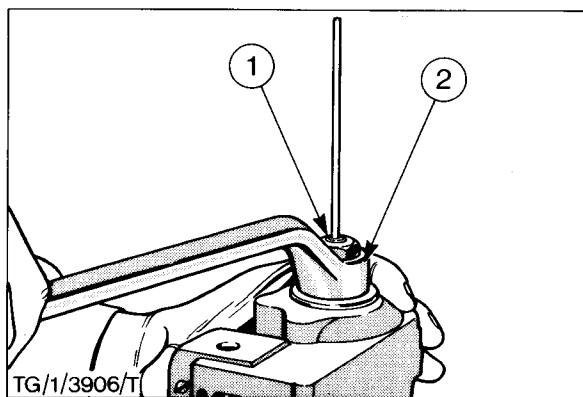

Fig. 65 - Installing a New Rear Bearing Cup (Dorset Shown)
1. Fit a new camshaft rear bearing cup in the cambox using the installer (TOOL NO. CT 9051), ensuring that it is drawn fully home into its location (Fig. 65).